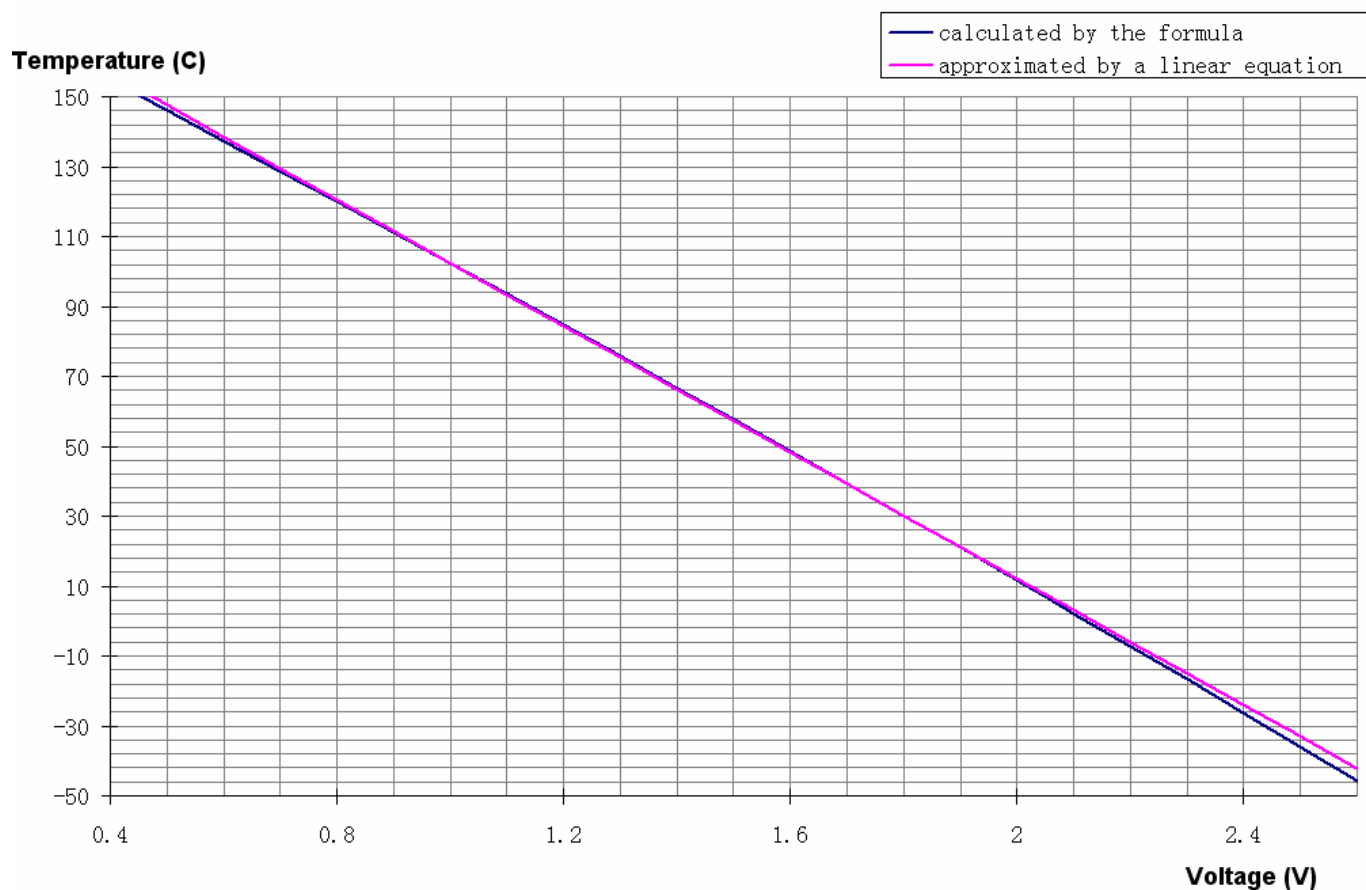

Figure 8. Controller Internal Temperature vs. TMPO Voltage
data by using the formula (1) and the approximated data obtained by using the linear equation (2) is about 0.4°C, with the linear data being a little lower. The curves of the 2 sets of the data are plotted in Figure 8.